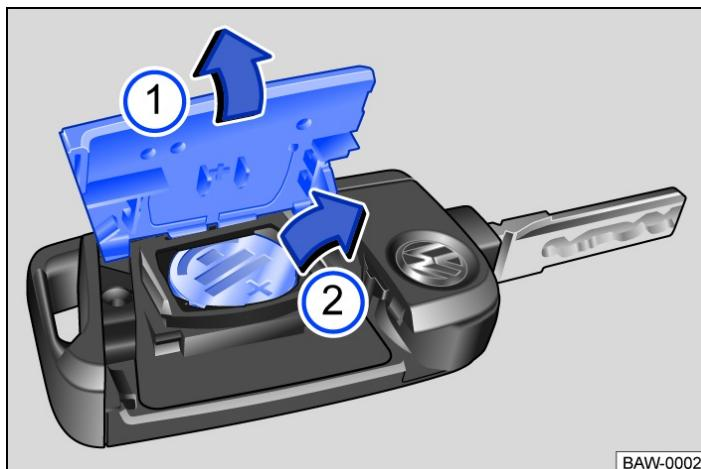

Fig. 1 Vehicle key: replacing the button cell.
Key to *Fig. 1*:
- Lever off the cover → *Fig. 1* ①, → ①.
- Lever the button cell out of the battery compartment → *Fig. 1* ②.
- Press the new button cell into the battery compartment → ①.